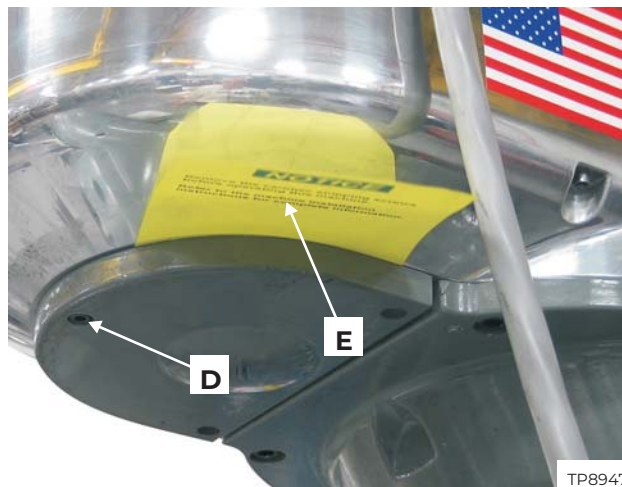

Figure 1.9 - Motor Pulley Cover with One Screw
1. Loosen screw "D", Figure 1.9.